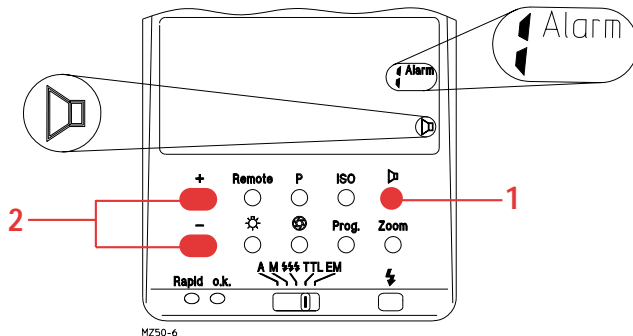

Fig. 25: Adjusting the alarm functions
- Use the + or - button (24) to select the „Prog. ?“ program place where the settings are to be stored.
- Hold down the Remote (**STO**) (22) button (approx. 3 seconds) until the LC display becomes dark. A short brief audio signal is sounded when the buzzer is active (see fig. 25, page 37), after which the settings are stored.